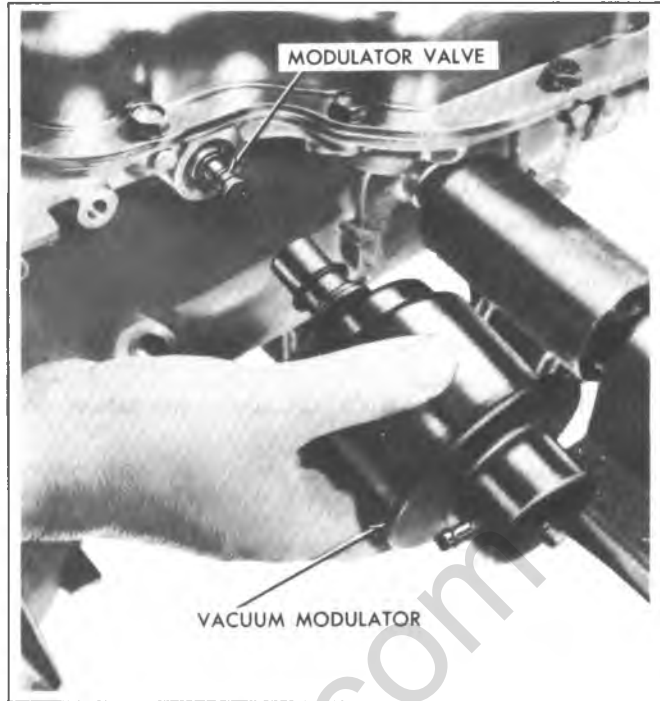

Fig. 7A-47--Removing Vacuum Modulator and Valve
4. Remove manual shaft and jam nut from case, as shown in Fig. 7A-48.